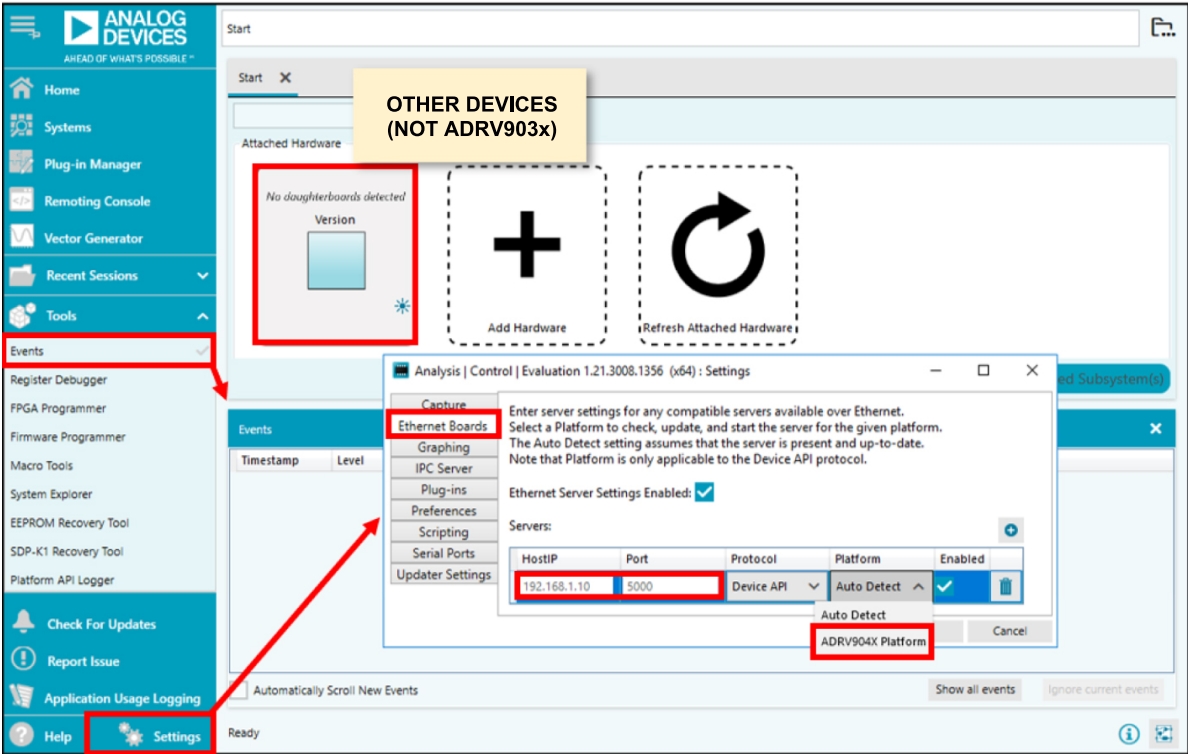

Figure 5. Providing ADRV903x Command Server Application IP Address, Port, and Platform Type to ACE
3. Enter server settings as shown in Figure 5. **ADRV903x Platform** must be selected for platform.